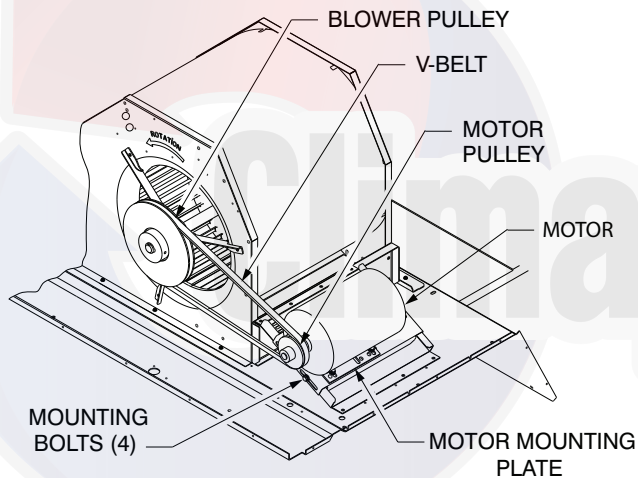

Fig. 5 - Belt Drive Motor Mounting
The supply fan system consists of a forward-curved centrifugal blower wheel on a solid shaft with two concentric type bearings, one on each side of the blower housing. A fixed-pitch driven pulley is attached to the fan shaft and an adjustable-pitch driver pulley is on the motor. The pulleys are connected using a “V” type belt. See Fig. 5.
2. Loosen belt by loosening fan motor mounting nuts. See Fig. 5.